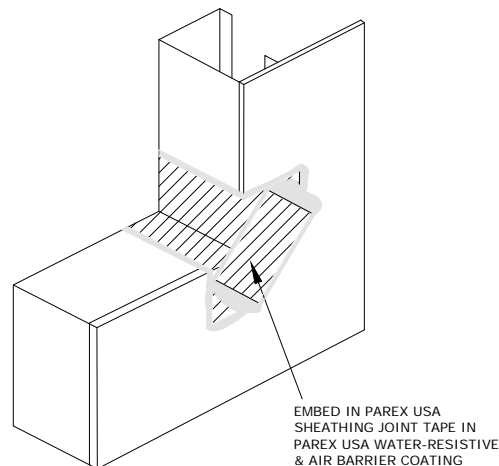

Fig. 10.2
- Cut "bandages" to 4 in. (102mm) x 6 in. (152mm). Embed Parex USA 396 Sheathing Tape into Parex USA WeatherSeal and install diagonally at sill corners as shown. Sheathing should not be visible at the corners of the rough opening (Fig 10.2)